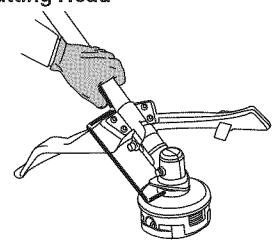

Fig. 23
2. Hold the locking rod in place by grasping it next to the shaft housing of the unit (Fig. 23).
3. Hold the locking rod in place by grasping it next to the shaft housing of the unit (Fig. 23).